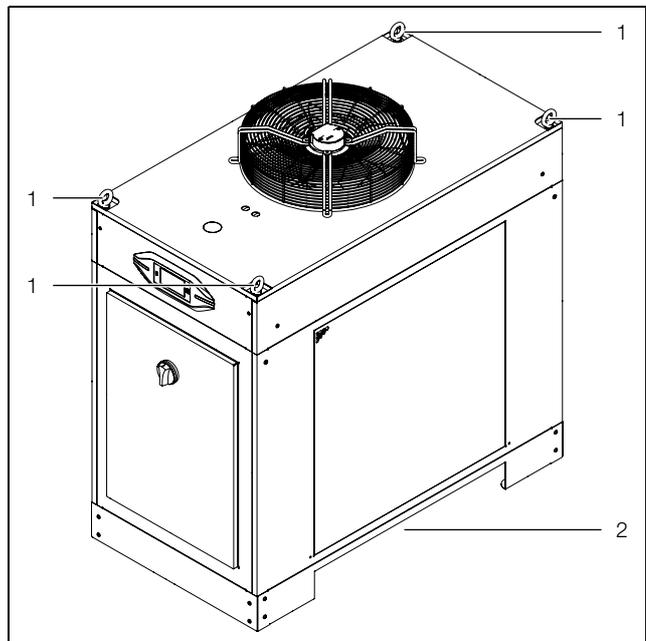

Fig. 10: Transport (333640x)
- with lifting gear at the eyebolts provided for this purpose (fig. 10, item 1) or
- using a floor conveyor by holding from below and lifting from the side (fig. 10, item 2).